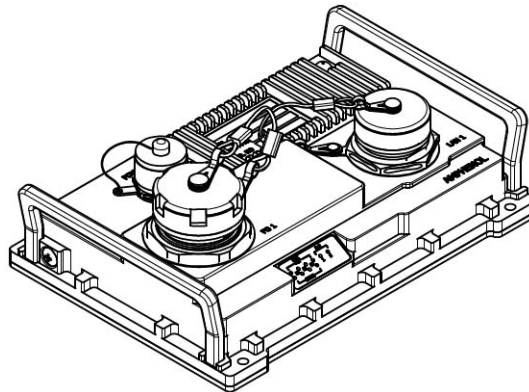

Figure 1 : RES GMC 1X RJF CTOS
1. Prepare the cable for termination process and slide onto the cable the items in the order shown on figure 1.